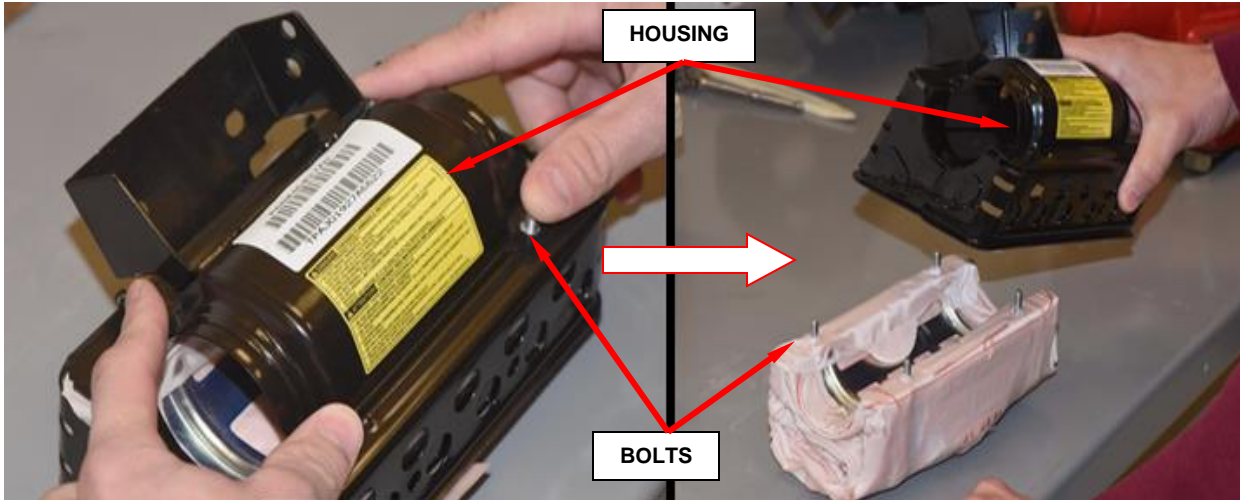

Figure 42 - Remove Airbag Cushion from Housing
- e. Remove airbag cushion from housing by applying pressure to the bolts, set cushion aside (Figure 42).